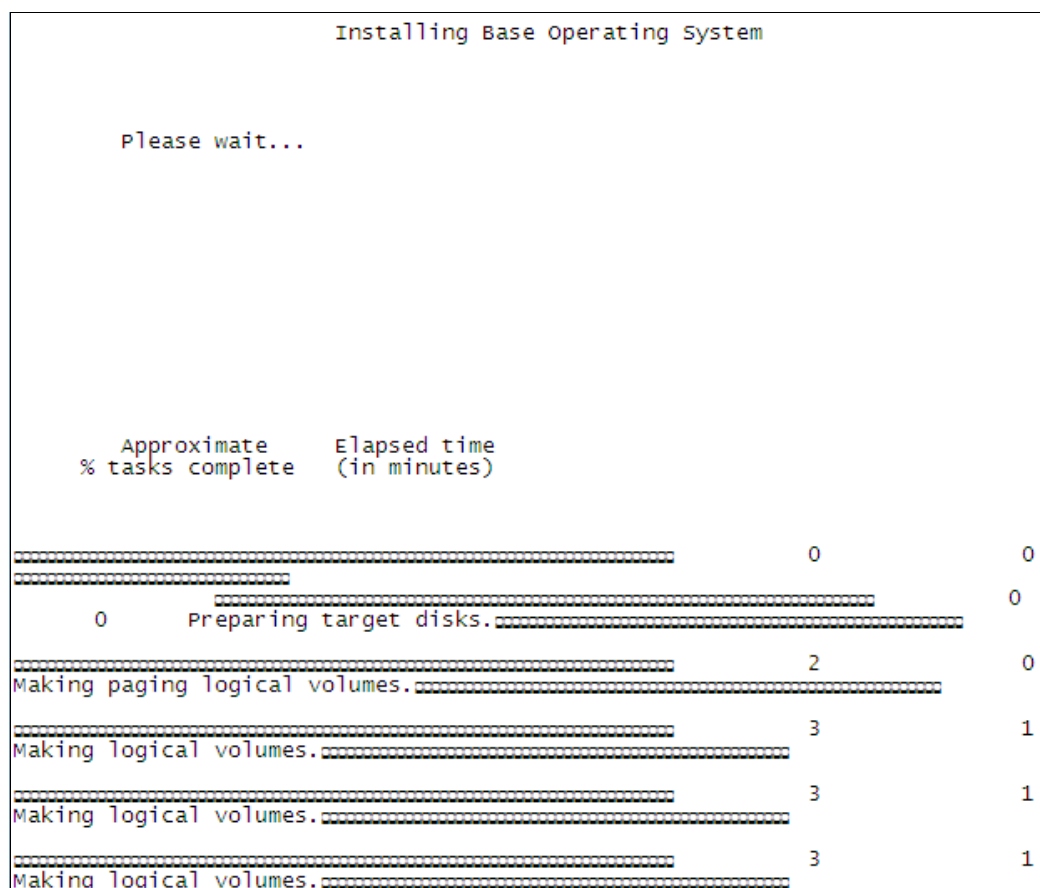

Figure 5-149 Installing Base OS
11.Press **1** to start the installation, as shown in Figure 5-149.